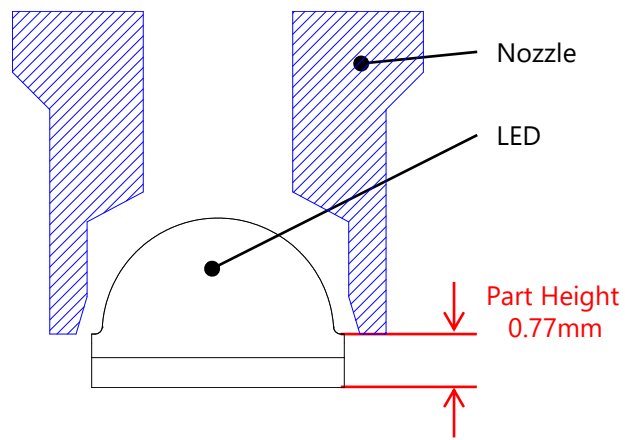

Figure 3. Cross-sectional view of a nozzle when transporting an Nichia 519 series LEDs
2. As shown in Figure 3, the nozzle tip should only touch the flat corners of the LED's top surface to hold the LEDs. Ensure that it does not come in contact with the lens. The LEDs uses a silicone resin for the lens and internal pre-coating resin; the silicone resin is soft. If pressure is applied to the lens, it may cause the lens to be damaged, chipped and/or delaminated. If the lens is damaged, chipped, delaminated and/or deformed, it may cause the internal connection to fail causing a catastrophic failure (i.e. the LED not to illuminate) and/or reliability issues (e.g. the LED to corrode and/or to become dimmer, the color/directivity to change, etc.) Ensure that no amount of pressure is applied to the lens.